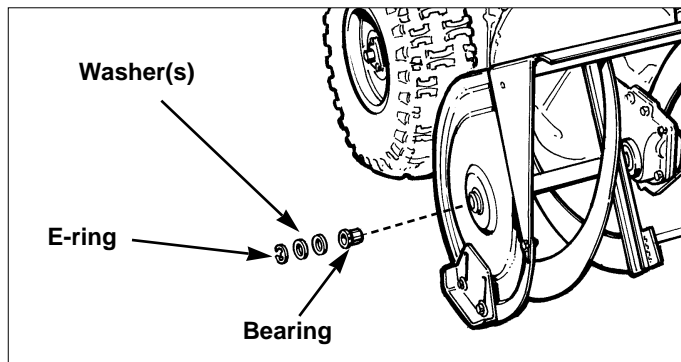

Figure 27. Auger Bearings
1. Pry off the E-ring (Figure 27).